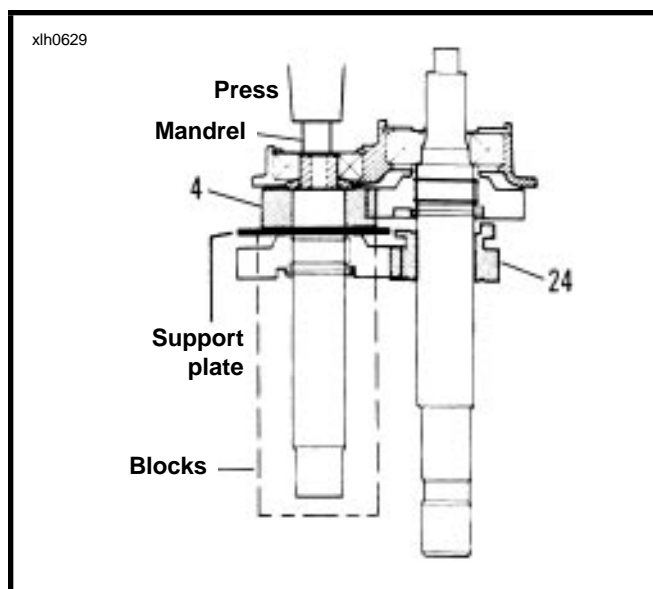

Figure 6-25.
7. See Figure 6-25. Place **COUNTERSHAFT GEAR SUPPORT PLATE** (Part No. HD-37404) under countershaft 4th gear (4). Place assembly on press with suitable metal blocks under the support plate. Place a socket or mandrel, smaller than inside diameter of bearing, and press countershaft free of access cover. Slide mainshaft 1st gear (24) off mainshaft.